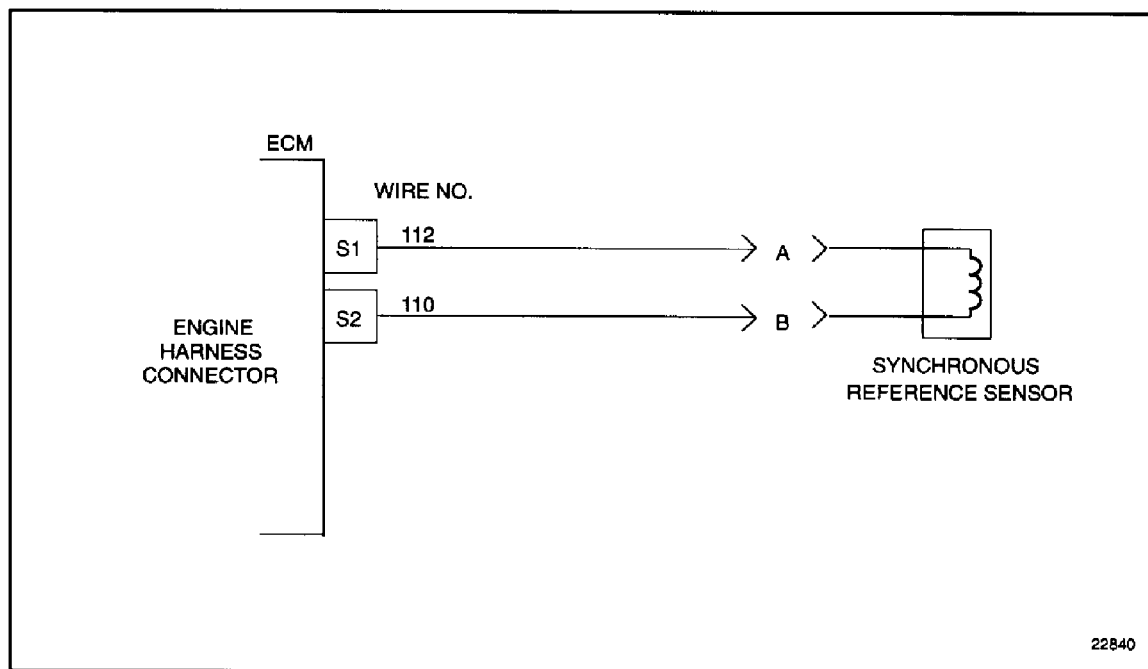

Figure 42-8 Engine Harness Connector to Synchronous Reference Sensor
1. Check terminals at the SRS (both the SRS and harness side) for damage: bent, corroded, and unseated pins or sockets, or a bad contact. See Figure 42-8.